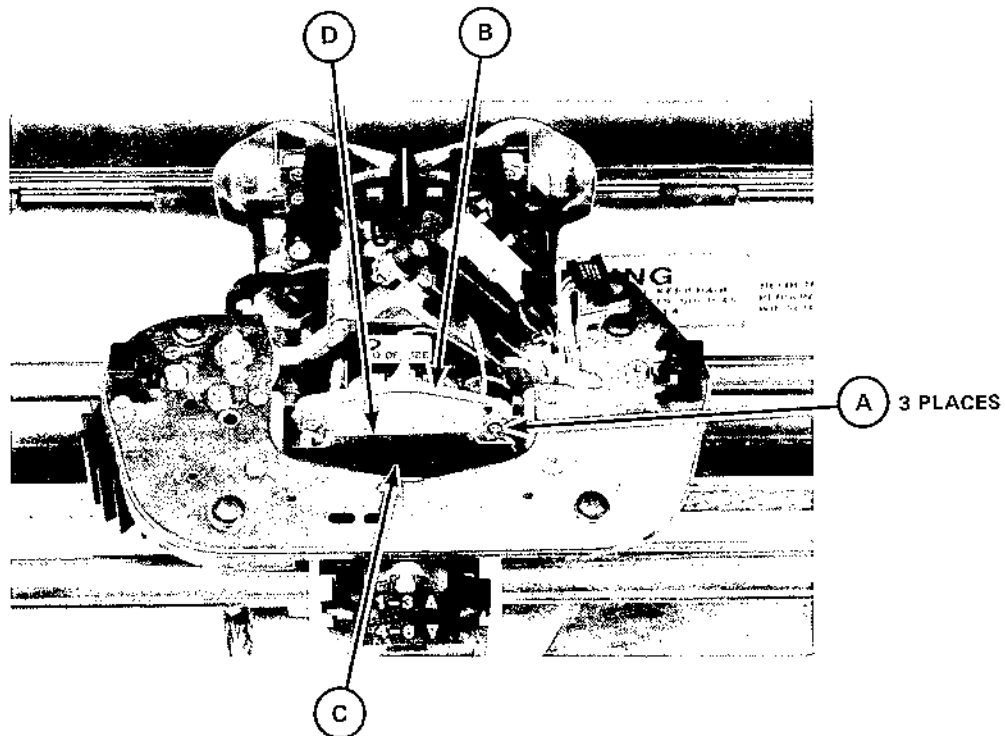

Figure 5-16. ADJUSTING THE ECS PRINT WHEEL TRANSDUCER
- 9b) ECS Units Only: (Refer to Fig. 5-16)
- Slightly loosen the three screws (A) that hold the stationary transducer plate (B).